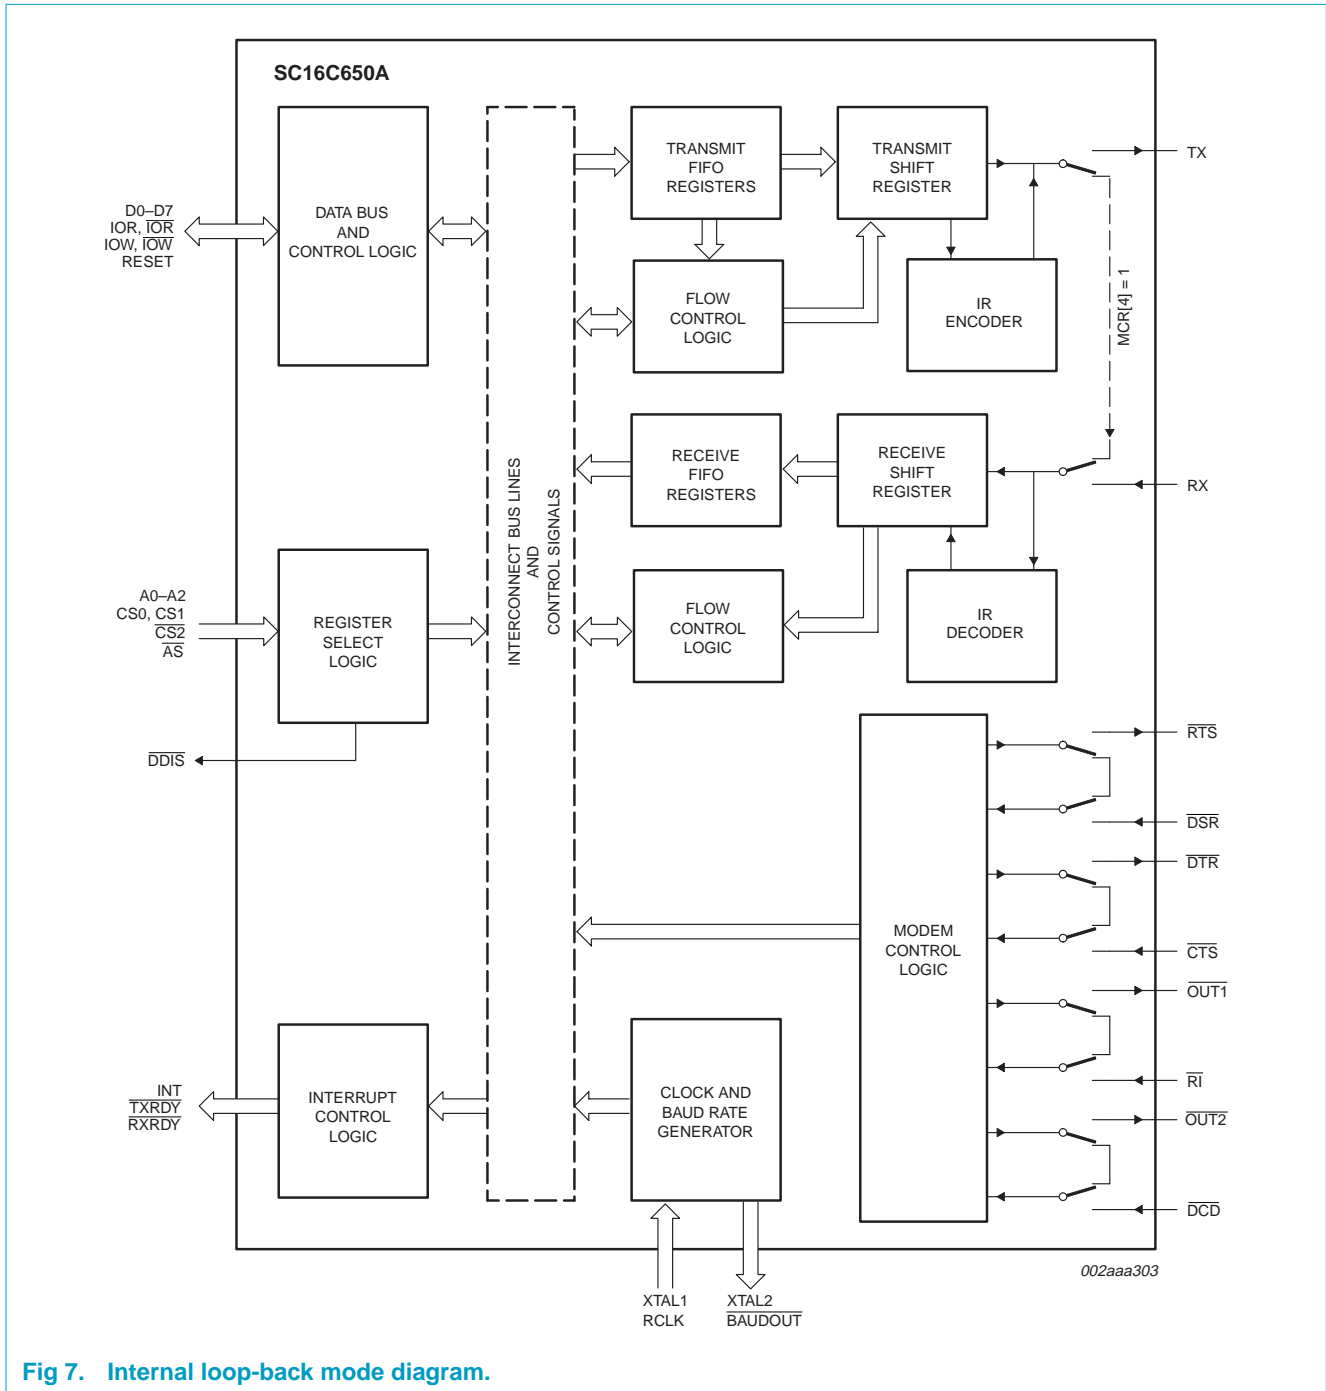

Fig 7. Internal loop-back mode diagram.
The internal loop-back capability allows on-board diagnostics. In the loop-back mode, the normal modem interface pins are disconnected and reconfigured for loop-back internally. MCR[0-3] register bits are used for controlling loop-back diagnostic testing. In the loop-back mode, OUT1 and OUT2 in the MCR register (bits 2-3) control the modem  $\overline{\text{RI}}$  and  $\overline{\text{DCD}}$  inputs, respectively. MCR signals  $\overline{\text{DTR}}$  and  $\overline{\text{RTS}}$  (bits 0-1) are used to control the modem  $\overline{\text{CTS}}$  and  $\overline{\text{DSR}}$  inputs, respectively. The transmitter output (TX) and the receiver input (RX) are disconnected from their associated interface pins, and instead are connected together internally (see Figure 7). The  $\overline{\text{CTS}}$ ,  $\overline{\text{DSR}}$ ,  $\overline{\text{DCD}}$ , and  $\overline{\text{RI}}$  are disconnected from their normal modem control input pins, and instead are connected internally to  $\overline{\text{DTR}}$ ,  $\overline{\text{RTS}}$ ,  $\overline{\text{OUT1}}$  and  $\overline{\text{OUT2}}$ . Loop-back test data is entered into the transmit holding register via the user data bus interface, D0-D7. The transmit UART serializes the data and passes the serial data to the receive UART via the internal loop-back connection. The receive UART converts the serial data back into parallel data that is then made available at the user data interface D0-D7. The user optionally compares the received data to the initial transmitted data for verifying error-free operation of the UART TX/RX circuits.